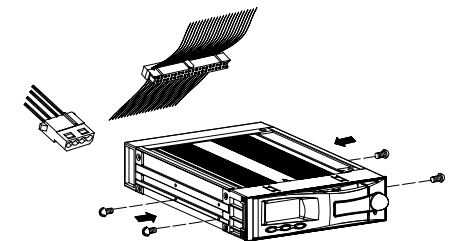

Fig. 9
- Install the module into a 5.25" half-height expansion bay. Insert the DC power cable and the IDE cable of the user's chassis to connectors located at the back plane of the cartridge frame. Then, fully secure the module to the chassis by using the four M3x6 screws provided. (Fig.9)